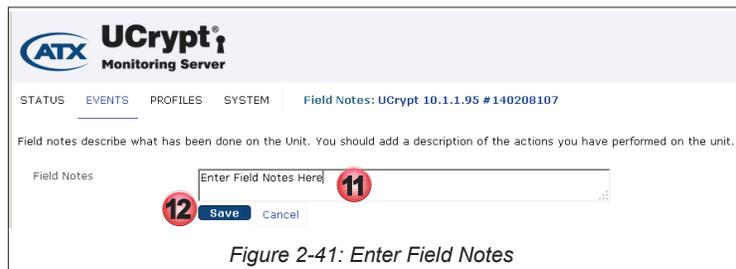

Figure 2-41: Enter Field Notes
11. In the field notes dialog, enter any information that will help others understand what happened, Figure 2-41.